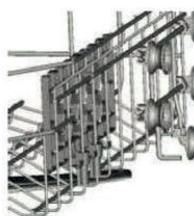

Fig. 9
3. Finally, close the flap by sliding it to the left (Fig. 9). To lock the flap, push it down slightly when closing.
- You can tilt the stand and adjust it in height (Fig.9).
- Long and sharp objects should be placed in front of the upper rack in a horizontal position as shown in Fig. 9.